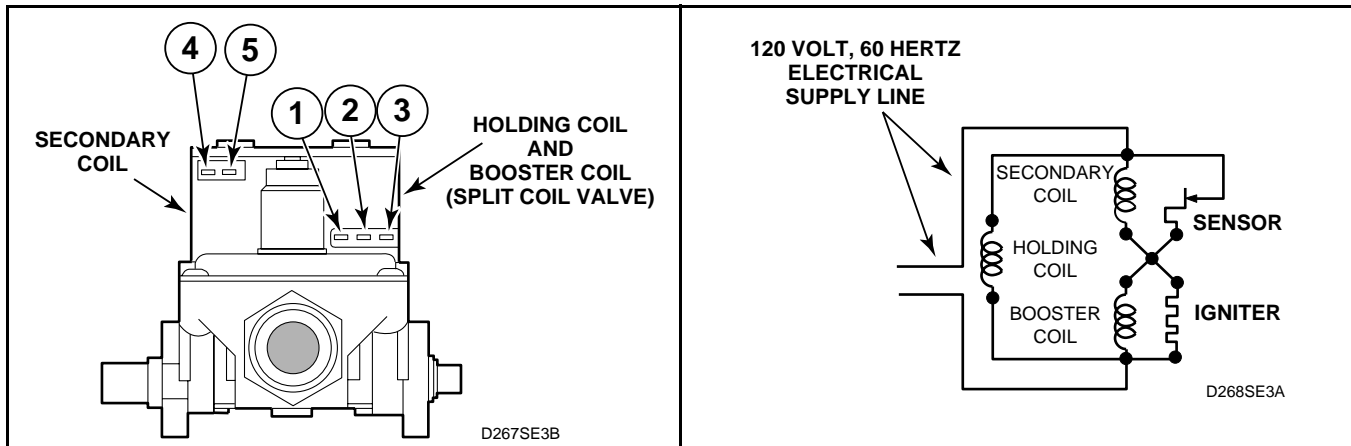

Figure 45
(Figure 45)
- Set test meter to read AC voltage and apply meter probes into terminals on the dryer harness plug that would correspond to terminals "1" and "2" on the coil. See *Figure 45*. Meter should register line voltage in all Fabric settings, except FLUFF which should read "zero" VAC.